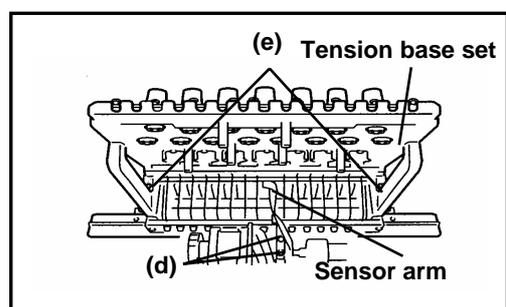

FIG.3
- (7) Adjust the distance from the lower end of the top dead center stopper to the upper end of the needle bar connecting stud to 4.5 mm, and tighten the setting screw (c). (Fig.3) Rotate the hand wheel and check the needle bar reciprocator is properly set with the needle bar connecting stud.